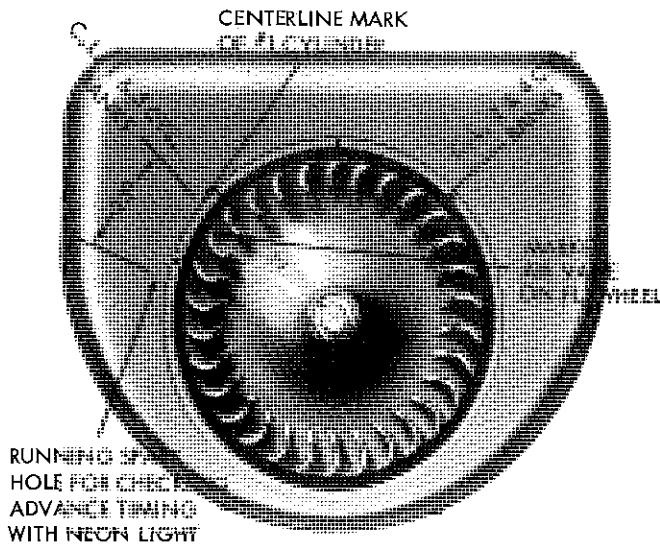

Figure IV-51 Timing Engine (Operating not Installed in KID)
After the distributor has been properly overhauled or is replaced and calibrated, it can be installed and timed to the engine. For this purpose locate the No. 1 piston in the firing position (by mark on flywheel or by Ignition Timing Tool, fig. IV-51). Carefully install the distributor into the governor housing, making sure that advance arm assembly and "O" ring are installed. Mesh the distributor drive gear with the mating gear on the governor drive shaft, in such a position that the distributor rotor points to the No. 1 cylinder terminal of the distributor cap.
- (c) Install the timing disc on the PTO stub shaft as illustrated (figure IV-51).